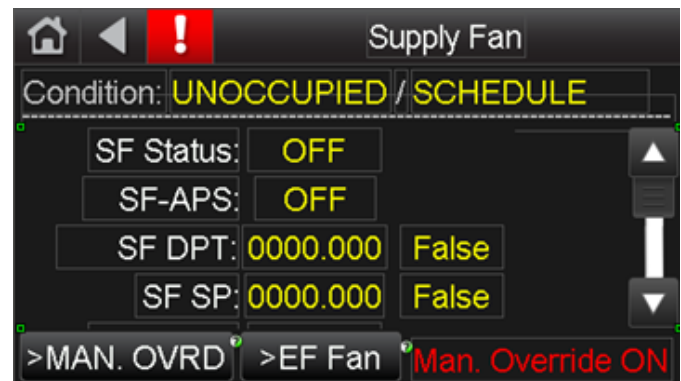

Fig. 11 — Supply Fan Status Screen
The Supply Fan Status screen shows the status and parameters for the supply fan (SF) and the clogged filter indicator (CFI). See Fig. 11.